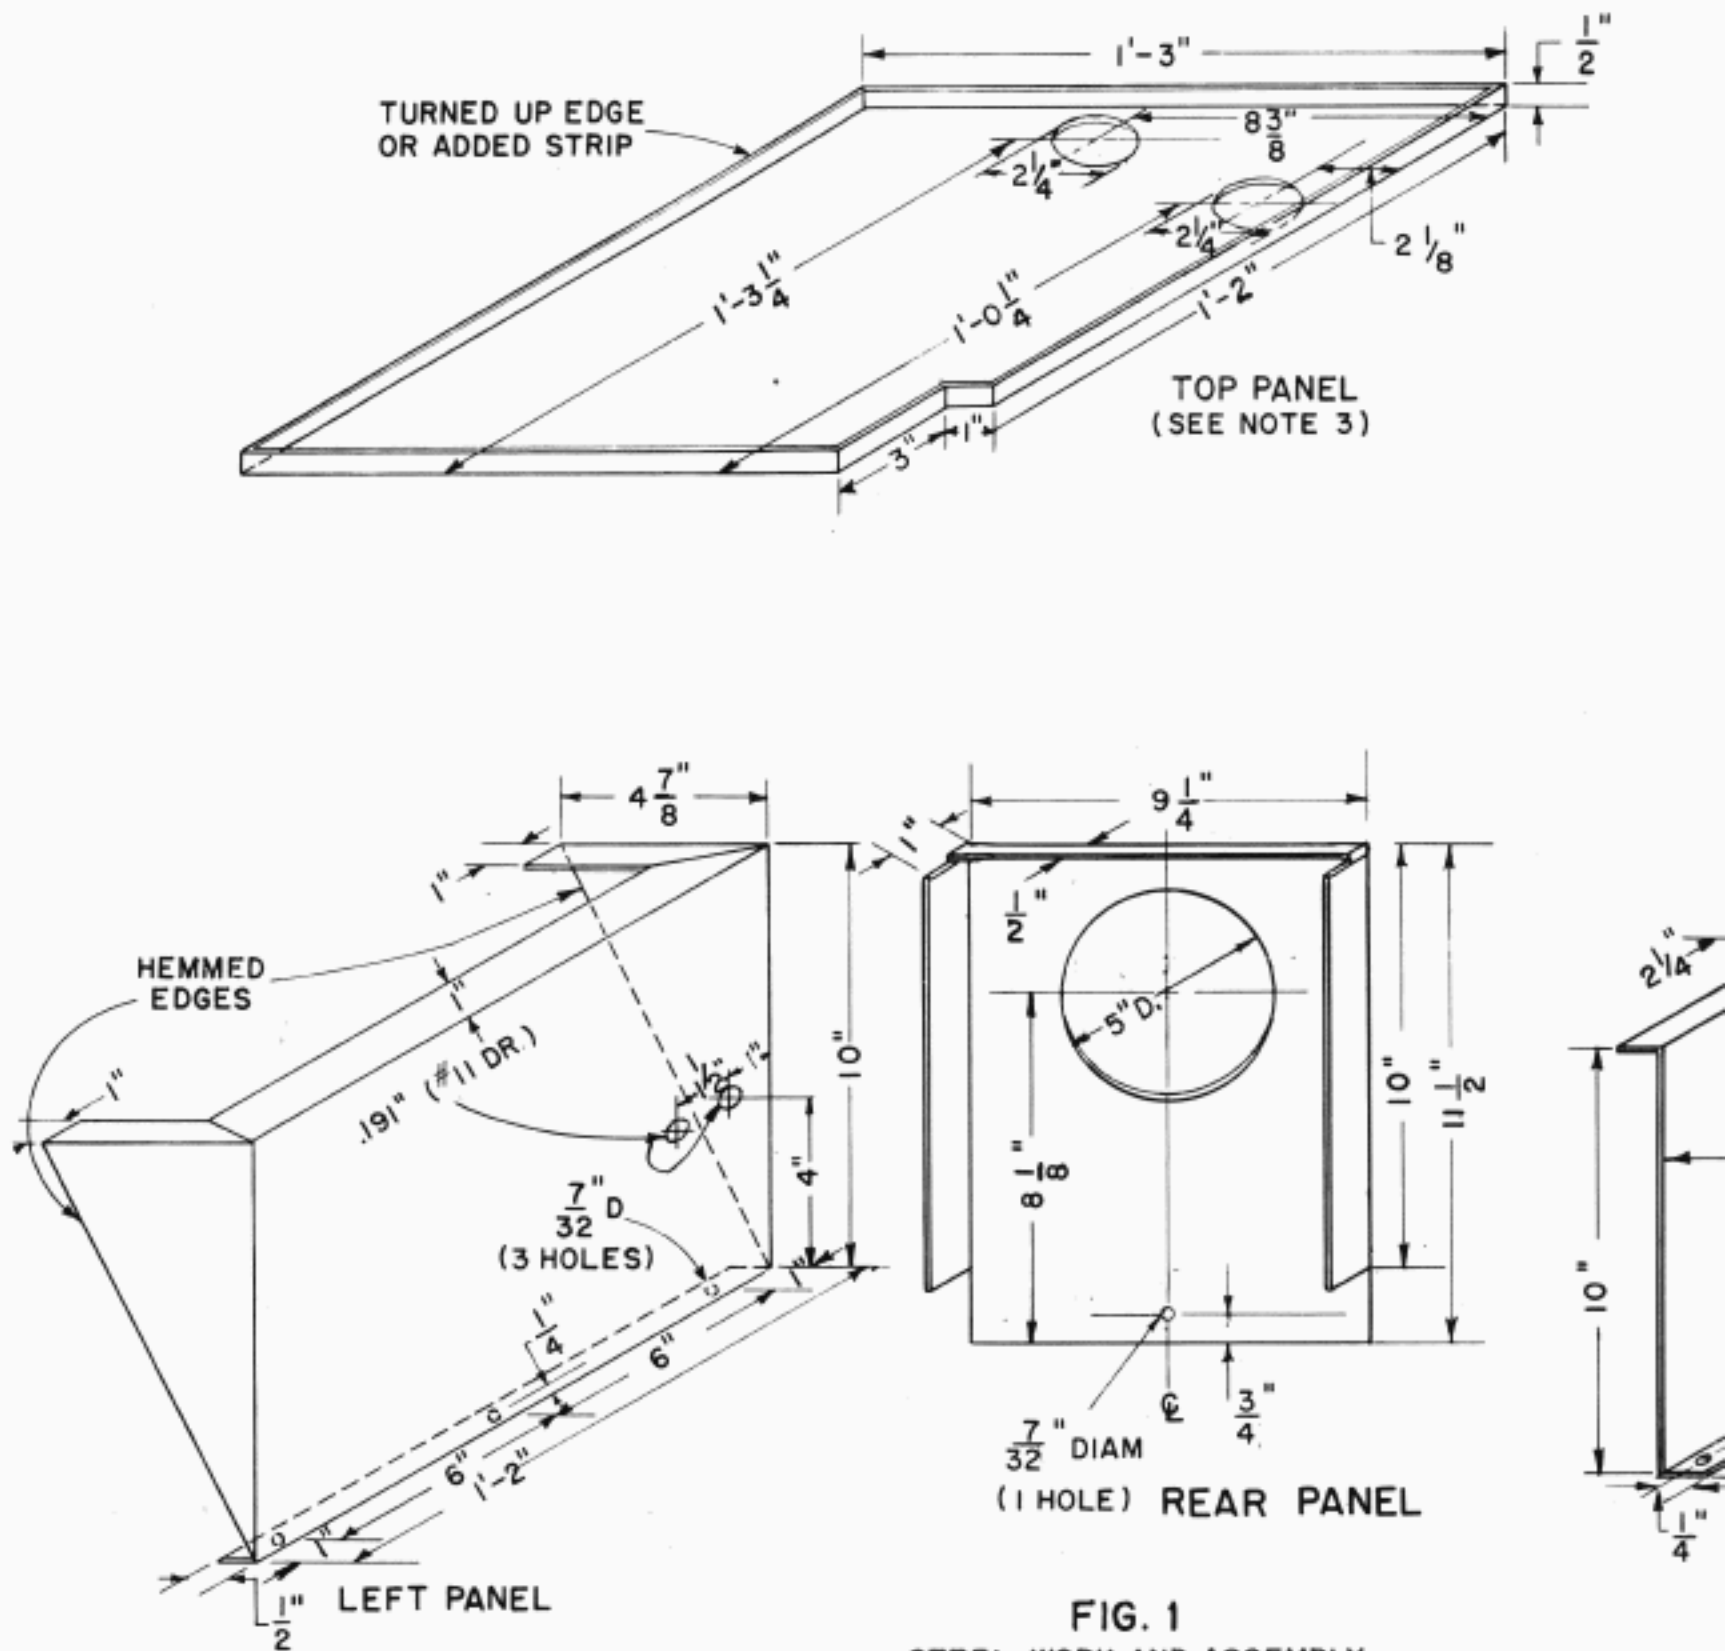

FIG. 1
- 13. FIG. 1 & FIG. 4 MADE MD. IF ANY TABLE IS MADE OF METAL AS WELL AS FOR WOODEN TABLES.
13. FIG. 1 & FIG. 4 MADE MD. IF ANY ARE TO BE USED APPLY FIG. A FOR METAL AS WELL AS FOR WOODEN TABLES.
NOTES ON FIG. 1 & 1A
(SEE NOTES ON FIG 1)
ON FIG. 1
FOR USE WITH FIG. 1 ONLY
- ISSUE D - ADDED NOTE II, ADDED GP1 & GP2 TO MATERIAL LIST. ADDED NOTCH IN RIGHT FRONT CORNER. CHANGED MATERIAL IN FIGS 1 & 3
- ISSUE F - MADE FIGS 1, 4 & A MD ADDED FIG 1A & A-1 ADDED NOTE 13. CHANGED DRILLING ON LEFT EDGE OF FIG. C